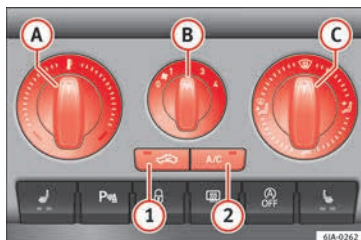

Fig. 170 Air conditioning: controls.
The air cooling system only works if **A/C** button **2** » **Fig. 170** » page 149 is pressed and under following conditions:
- Turn rotary control **A** » **Fig. 170** clockwise to increase the temperature.
- Turn rotary control **B** » **Fig. 170** to position 1 to 4 to switch the blower on.
- Turn rotary control **C** » **Fig. 170** to select the air vents » **page 147** you wish to activate.
- Press the button **A/C** **2** » **Fig. 170** and the lamp in the button will illuminate.
If the rotary switch **C** » **Fig. 170** is in the thaw position, the recirculation flap will always be open (button light off).
- Press button **1** » **Fig. 170**, the switch's lamp will light up, indicating that air recirculation inside the vehicle has been activated.